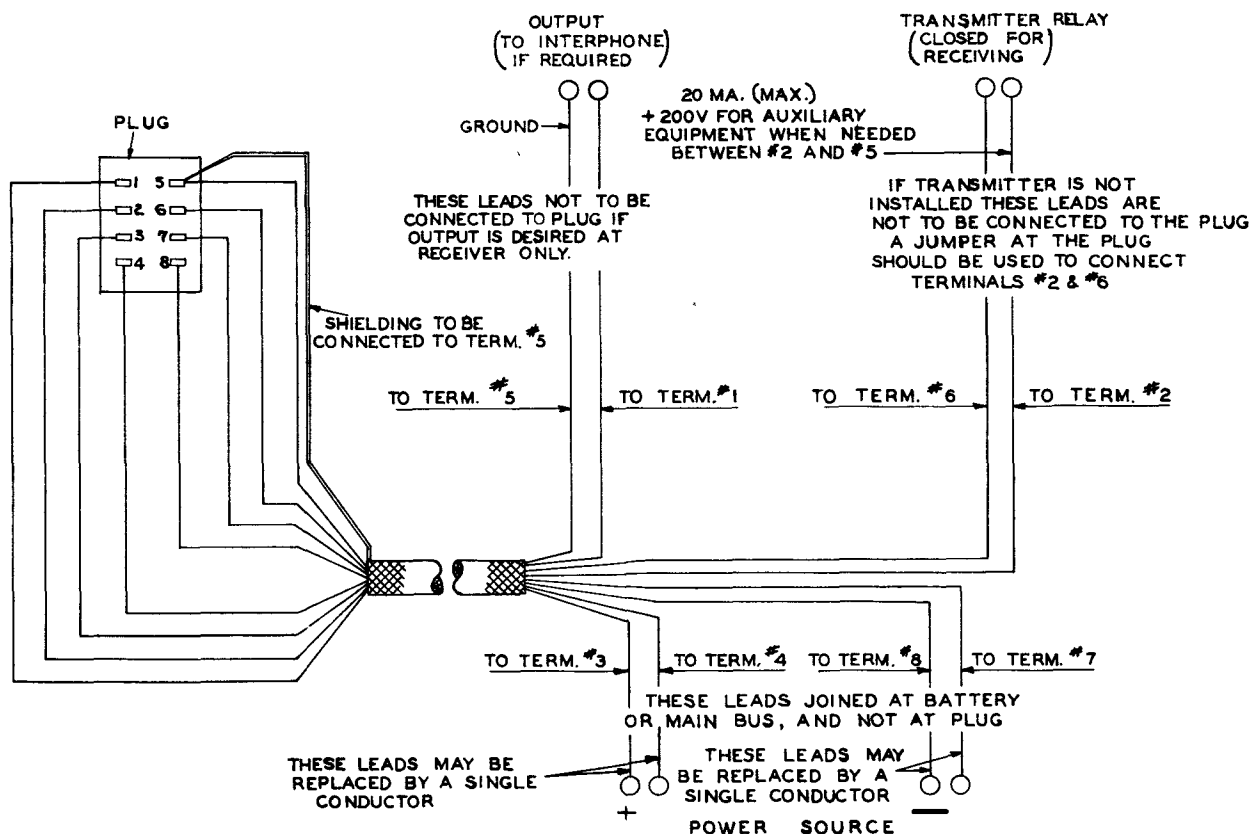

Figure 8—Plug Connections
b. **POWER CONNECTIONS.**—Connect the leads to the primary power source as shown in Figure 8. The parallel connected leads from plug terminals 3 and 4 may be replaced by a single conductor with a cross section equivalent to the two separate leads. Similarly, the parallel connected leads from plug terminals 7 and 8 may be replaced